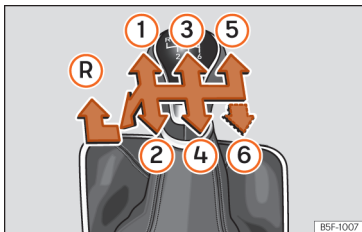

Fig. 97 Gear shift pattern of a 5 or 6-speed manual gearbox.
Gear positions are indicated on the gear lever »» Fig. 97.
- With the gear lever in neutral, push it down, move it all the way to the left and then forwards to select reverse gear »» Fig. 97 (R).